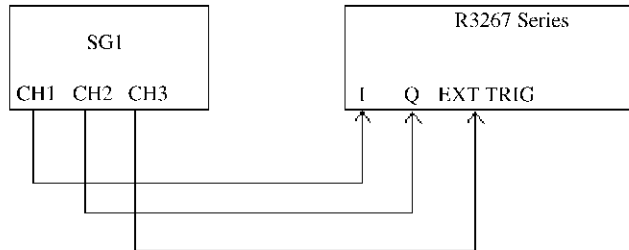

Figure 6-10 Setup of Up Link Measurement (IQ Input)
1. Connect equipment as shown in Figure 6-10.